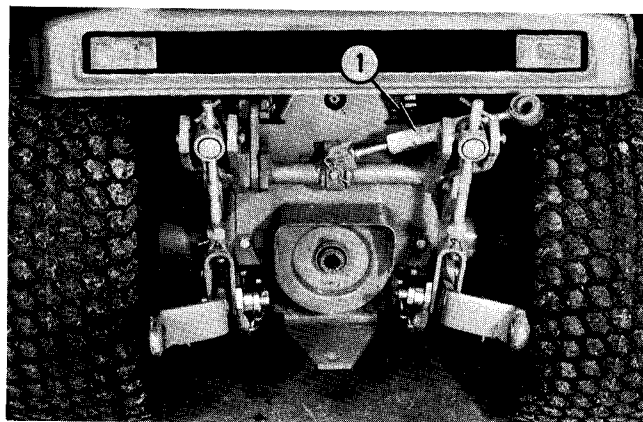

Fig. 61 — Top Link
5. Raise 3-point hitch when not in use and store top link in position shown in Fig. 61.